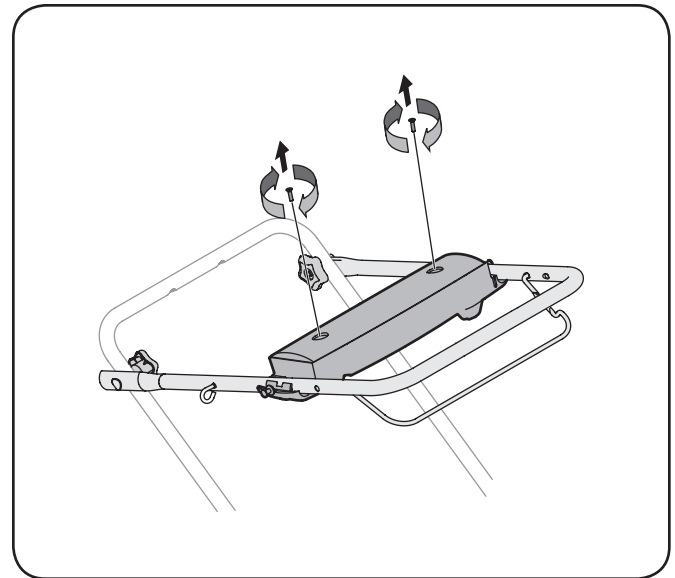

Figure 7-5
1. Loosen star knobs securing upper and lower handles and carefully fold the upper handle down toward the lower handle as shown in Fig. 7-5.
2. Remove the two screws securing battery cover to battery housing and place them to the side. See Fig. 7-5.
1. Open the battery cover as described in Replacing Battery. See Fig. 7-5.